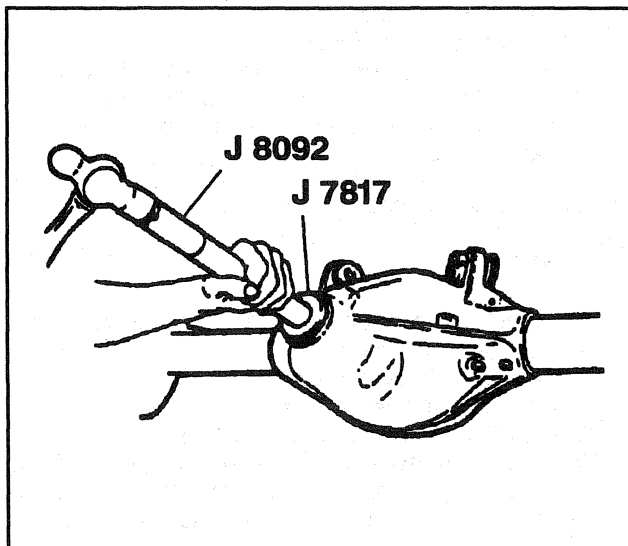

Figure 10—Installing the Front Pinion Bearing Cup
1. Front pinion bearing cup (39) using J 8611-01 and J 8092 (Figure 10) .